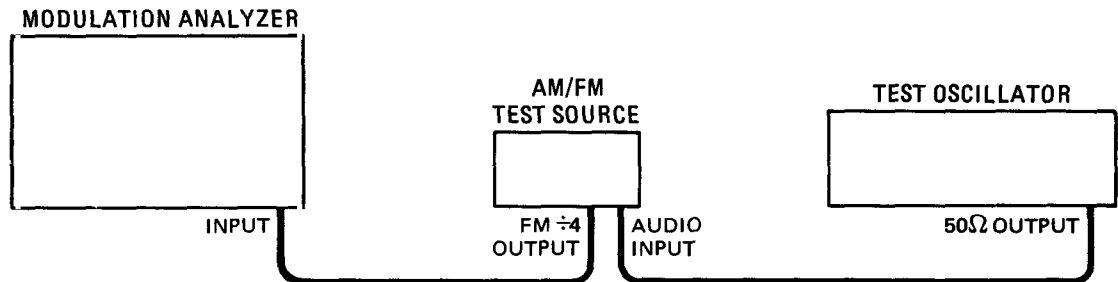

Figure 4-8. Modulation Analyzer Incidental AM Verification Test Setup
- a. Connect the FM ÷4 output of the AM/FM test source to the input of the modulation analyzer and the 50Ω output of the test oscillator to the audio input of the AM/FM test source, as shown in Figure 4-8.